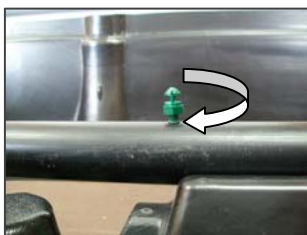

Figure 5.3 – gicleur (A-08)
- Insérez les gicleurs dans les trous du tuyau d'alimentation en les vissant à la main (Figure 5.3). Évitez de trop serrer afin de ne pas endommager les filets du gicleur ou du tuyau (Figure 5.4).
- *Stabilize the alimentation hose from the terminal type by sliding a plastic attachment under and pass it by a little plastic bridge. Cut the excess of the plastic attachment (Figure 5.3).*
- *Insert the sprayers in the holes of the alimentation hose by screwing them in (Figure 5.3). Finish turning the sprinklers with a wrench. Do not over-tighten so as not to damage the sprinkler notches or the hose (Figure 5.4).*